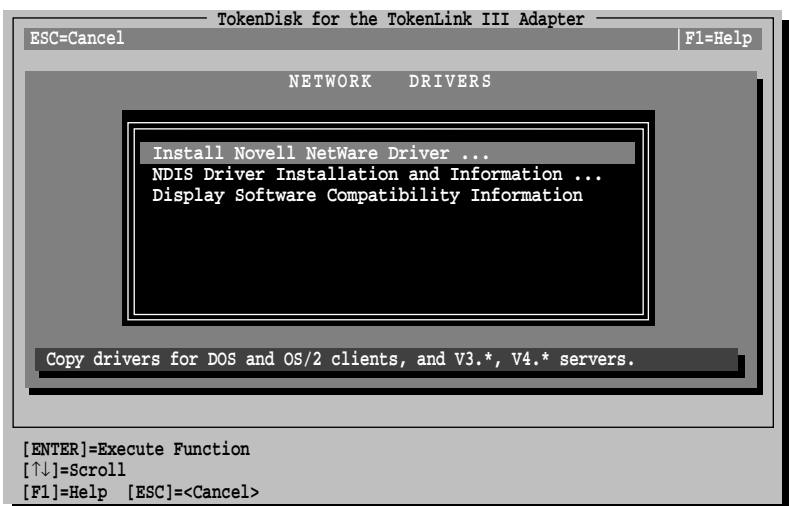

Figure 5-3 Network Drivers Menu
- 2 When the next screen appears, select Install Novell NetWare Drivers, as shown in Figure 5-3, and press [Enter].
The NDIS Driver Installation and Information option on the Network Drivers menu shown in Figure 5-3 provides instructions for installing the NDIS driver.